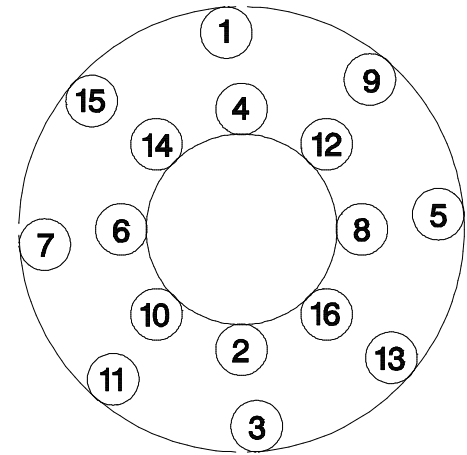

Figure 8
- 4.5.8 For each wear plate being replaced, follow the tightening sequence shown in Figure 8 for the first 16 screws. The remaining screws may be tightened in any reasonable crosswise pattern. See section 6.2 for illustrated part lists and Table 2 for tightening torque values.